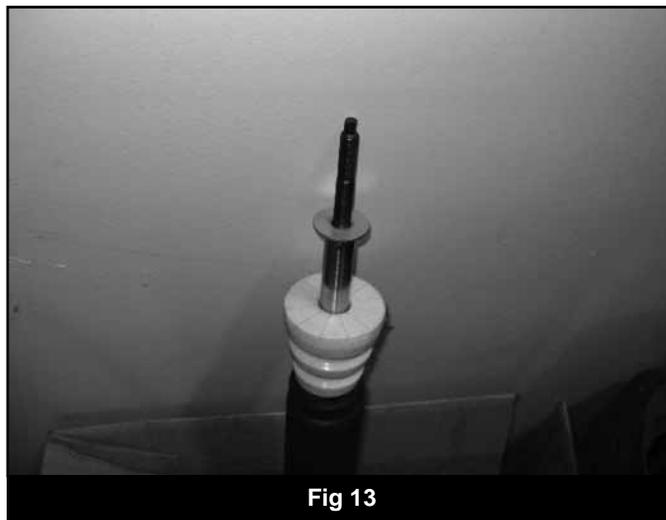

Fig 13
30. Remove the factory bump stop from the original strut rod and install it on the new strut rod (Fig 13). Transfer any alignment marks made on the original strut to the new strut.